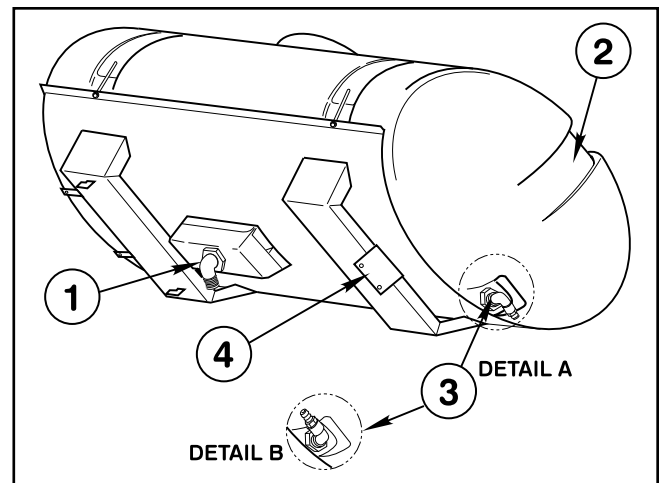
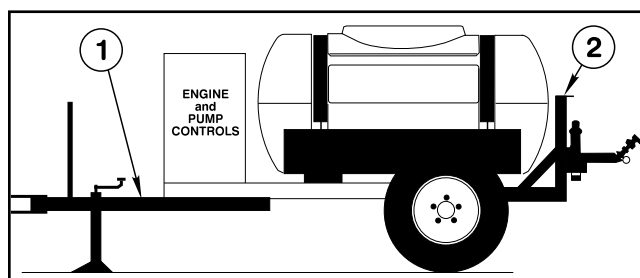
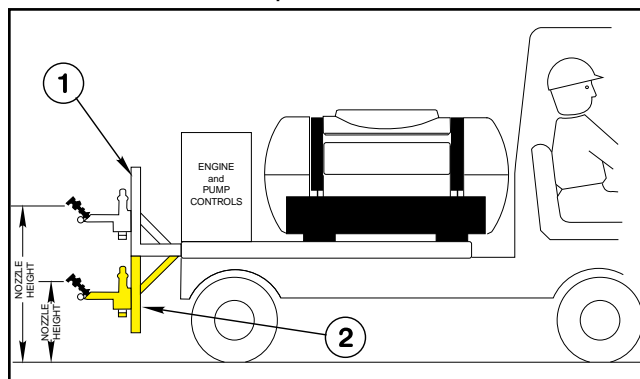

FIG. 2
FIG. 3
FIG. 4
3. Apply thread sealer and install the 90° barbed elbow into the bottom of the Tank. See FIG. 2.
4. Apply thread sealer and assemble the 90° St. elbow to the male Quick Coupler. Install the elbow into the fitting at the spill-way end of the Tank, so that it angles toward the outside of the Tank as shown in FIG. 2.
NOTE: If the Skid Sprayer is to be installed on a Trailer, (as shown in FIG. 3), install the Elbow and Quick Coupler in the Tank as shown in Detail "A" of FIG. 2. If the Skid Sprayer is to be installed on a Transport Vehicle (as shown in FIG. 4), install the Elbow and Quick Coupler as shown in Detail "B" of FIG. 2.
If the Skid Sprayer is to be equipped with the optional Trailer Package (Model No. 41415), mount the Boom as shown in FIG. 3.
- a. If this distance is measured at 24" or less on your vehicle, install the Boom Mounts in the **upright** position. See FIG. 4.
4. Connect the Overflow Hose to the Quick Coupler in the spill-way end of the Tank (FIG. 2).